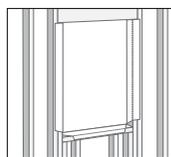

fig. 4 - Interior view
- Fold the bottom and side flaps over and behind the interior sides of the rough opening and fasten every 12" to 16" with staples. **(fig. 4)**